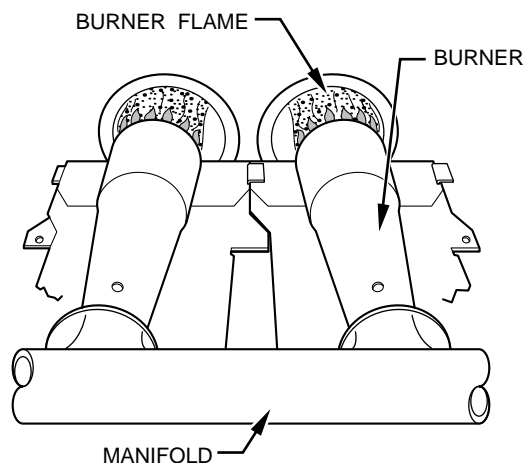

Fig. 13—Burner Flame
11. Check for correct burner flame. (See Fig. 13.)